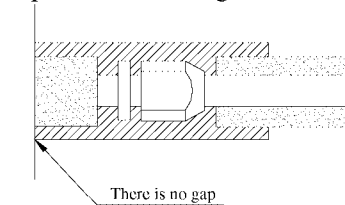

Fig.31
2. The joint of indoor unit and outdoor unit be wrapped by the insulated material, there is no gap between the surface of the indoor unit and outdoor unit, please refer to Fig.31